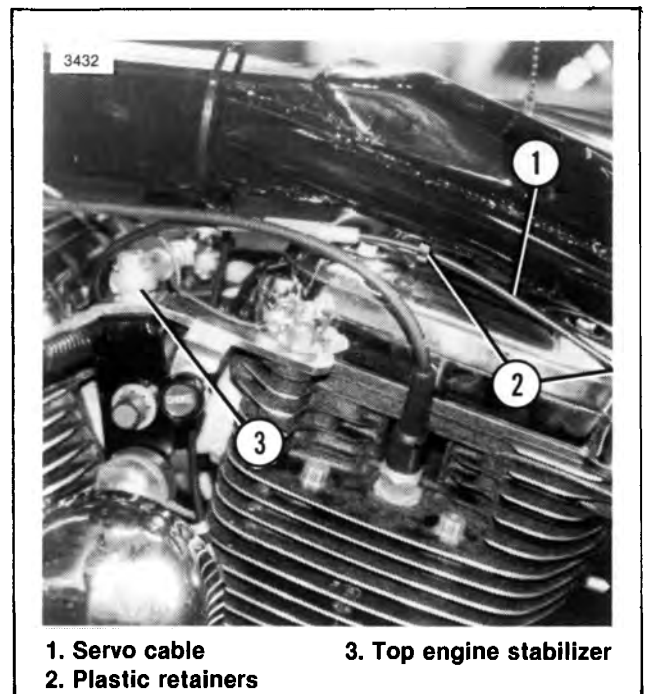

Figure 8-42. Servo Cable Routing
2. See Figure 8-42. Route servo cable (1) through the two plastic retainers (2), then forward and over the top engine stabilizer (3) and down between cylinder heads to the carburetor.